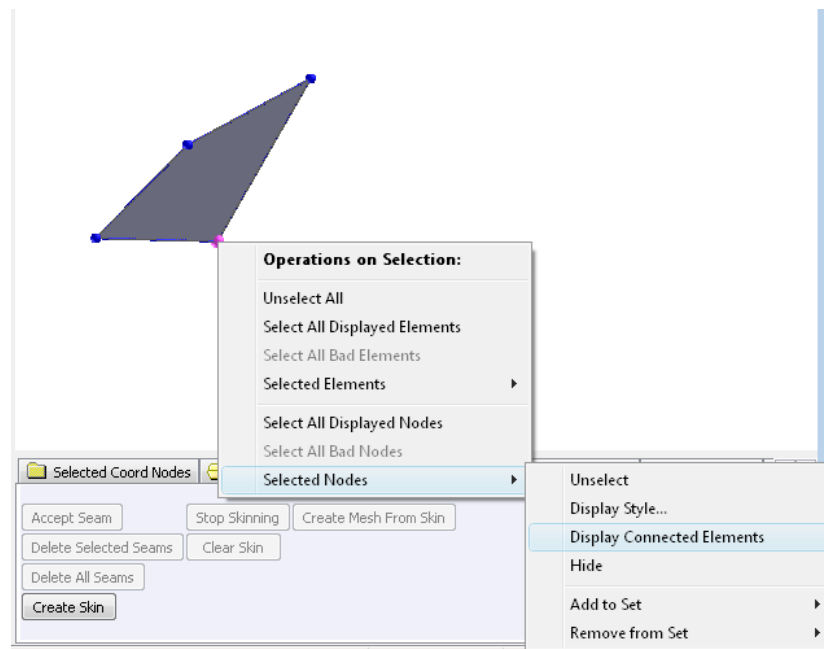

Figure 5.24: Display Connected Elements of Selected Node.
- Select any one of the coordinate nodes of the Bad Element by left-clicking on the node while holding down the *shift-key*. Then right-click and select: **Operations on Selection** → **Selected Nodes** → **Display Connected Elements** to display all the elements connected to that node (neighboring elements). (Figure 5.24)